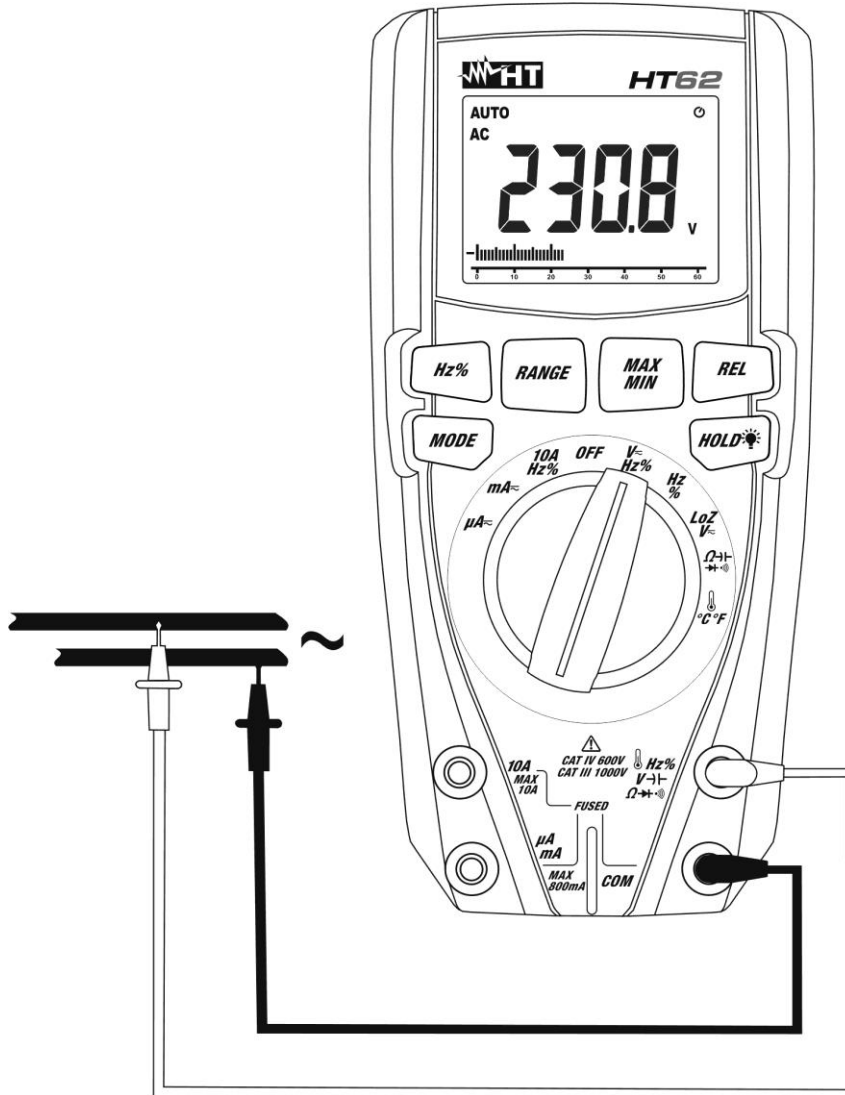

Fig. 3: Use of the instrument for AC voltage measurement
4. Position the red lead and the black lead respectively in the spots of the circuit to be measured (see Fig. 3). The display shows the value of voltage.